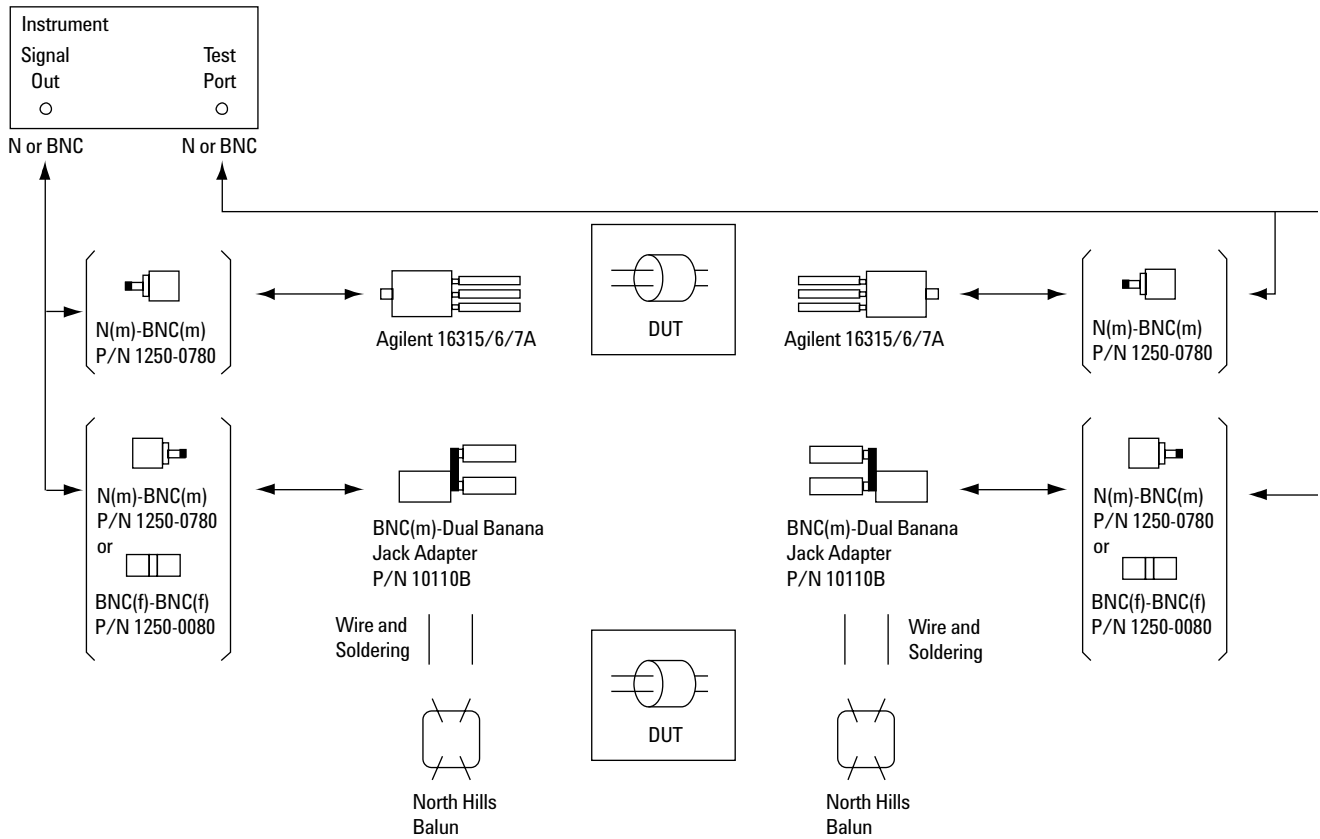

Figure 7. Measurement Configuration (3)
Figure 7 shows transmission measurement configuration (3) with a network analyzer.